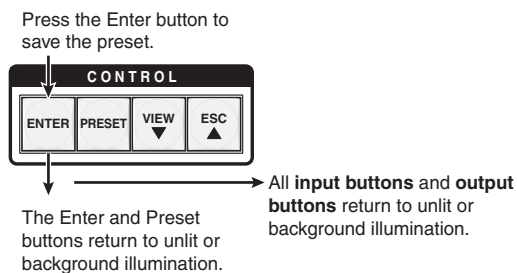

Figure 3-43 — Press the Enter button
- Press and release the Enter button (figure 3-43). The current configuration is now stored in the selected memory location.